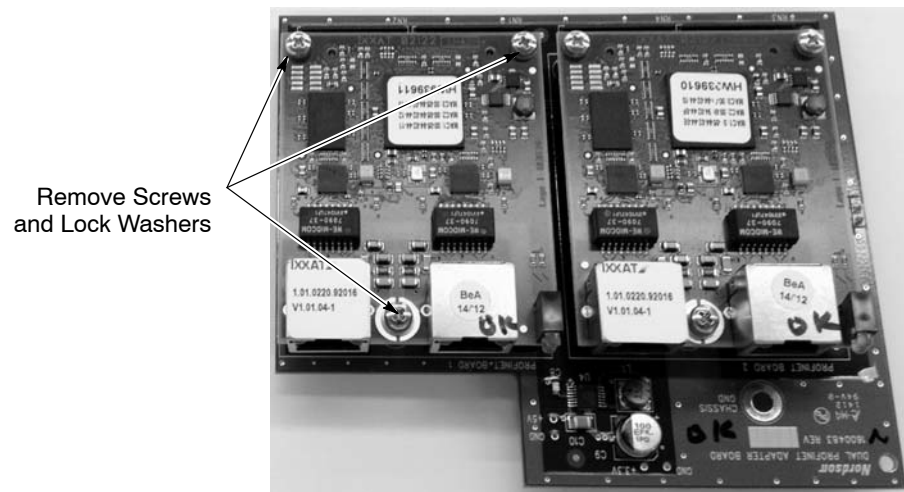

Figure 2 Profinet Adapter Assembly Preparation
4. Remove the screws and washers shown in Figure 2. Save the screws and washers for reuse.